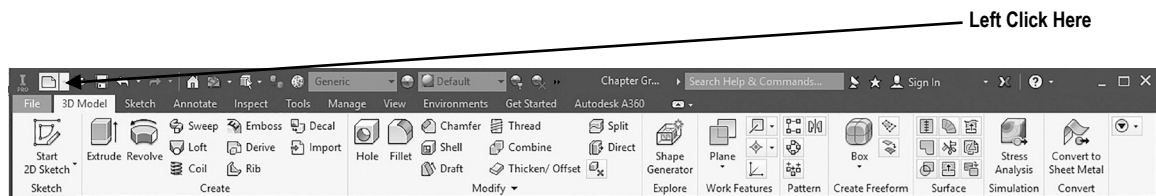

Figure 9
12. After the part file has been saved, move the cursor to the upper left portion of the screen and left click on the “New” icon as shown in Figure 9.